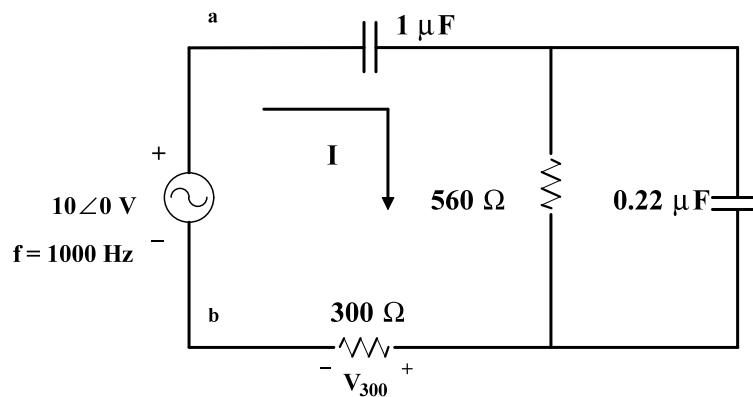

Figure 4.22: Circuit for Part 2LE.
**Part 2LE:** Circuit impedance. Connect the circuit of Figure 4.22 with a source as shown below. Measure and record the value of  $V_{300}$ , both magnitude and phase. You should measure the phase shift of  $V_{300}$  by noting the time shift with respect to the source voltage. The lab instructor can give you help with this.